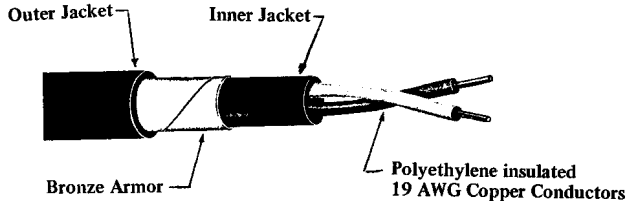

FIGURE 2
3.01 D underground wire, illustrated in Figure 2, is a 1-pair wire and is for use in buried distribution of telephone circuits. This wire can be buried directly in the ground without added mechanical protection.